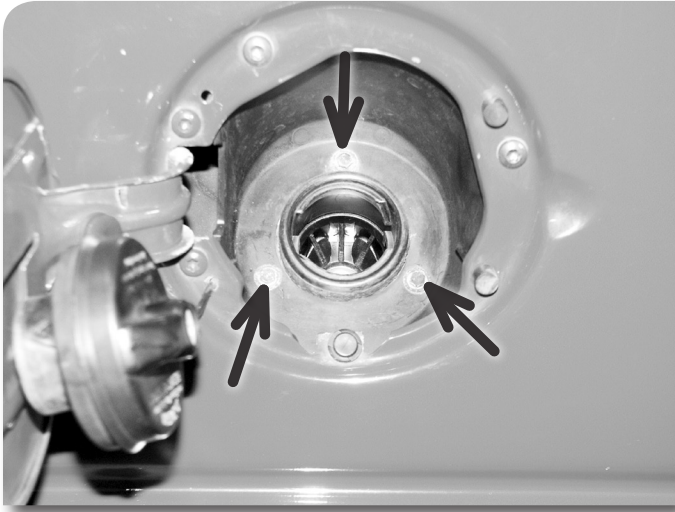

Figure 21
31. Remove the fuel filler cap to access the three screws mounting the filler neck to the plastic body shroud **Figure 21**. Remove the three screws to allow the filler neck to fall through the shroud while lifting the bed. Save screws.